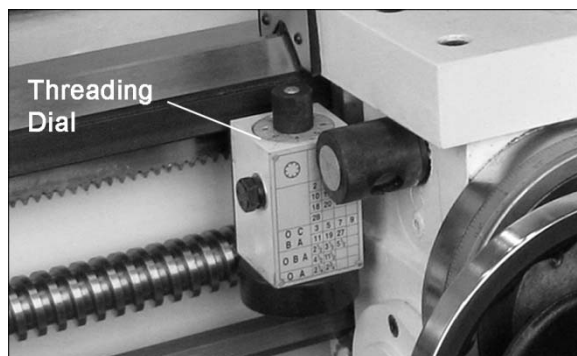

Figure 26
8. **Threading Dial (Figure 26):** Indicates the point on the leadscrew where the half nut can be re-engaged to continue inch threading.